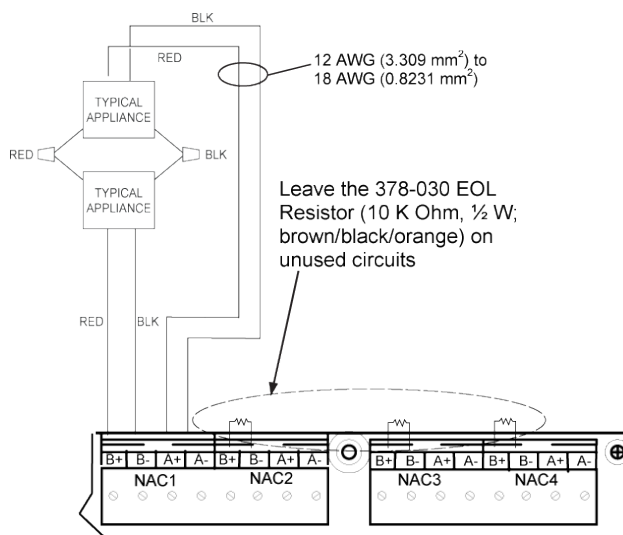

Fig 12: Class A NAC wiring
1. Route wire from the B+ and B- outputs of the power supply to the appropriate inputs on a peripheral notification appliance. Use NAC1, NAC2, NAC3, or Figure 12: Class A NAC wiring on page 15.